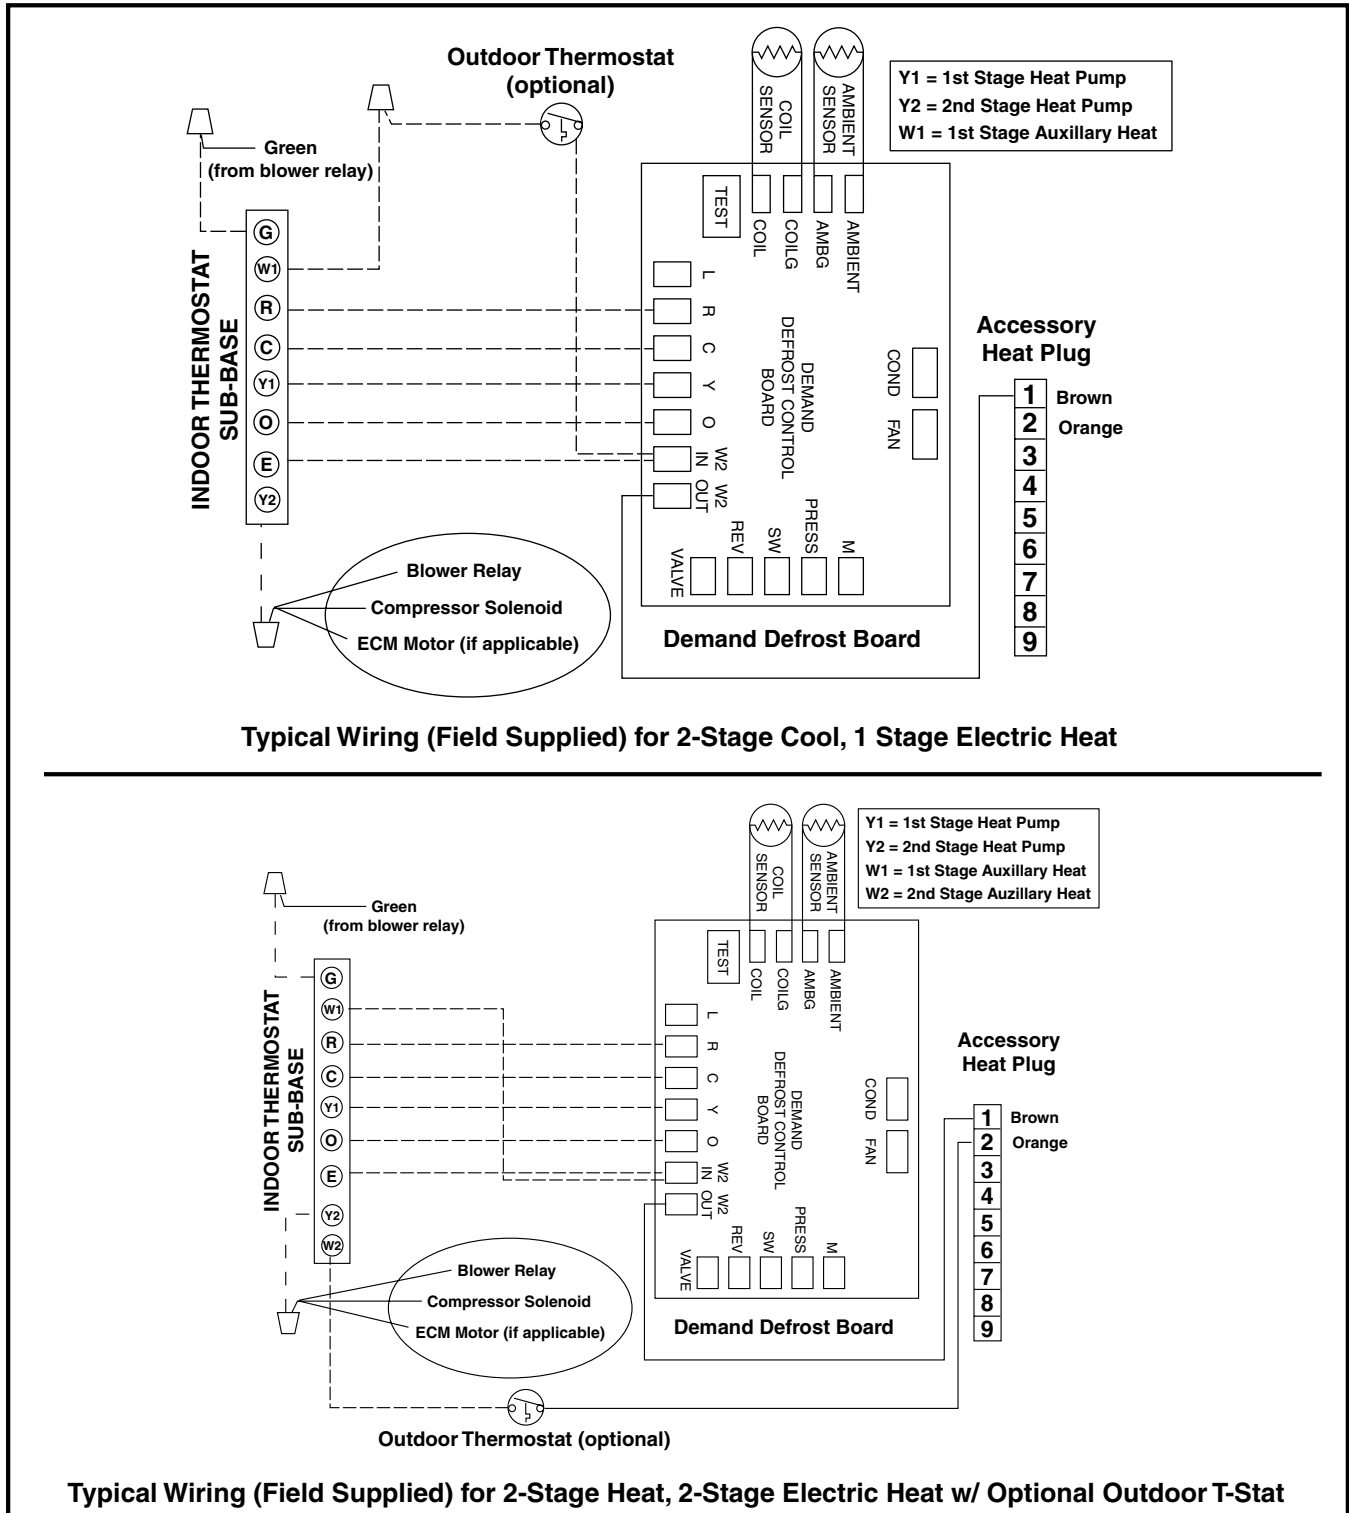

Figure 7. Typical Heat Pump Thermostat Connections
2. Connect the control wires to the defrost board and blower relay wire (Figure 7 \(page 10\)).